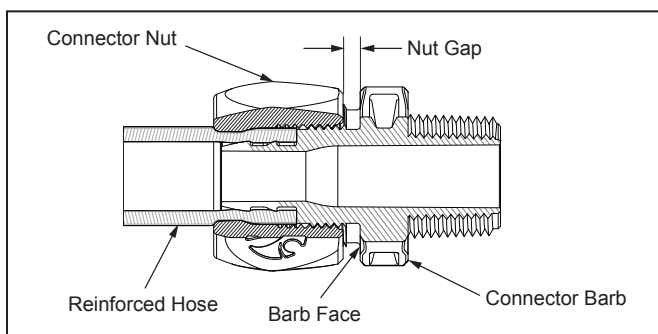

Figure 5. Tighten Connector Nut to Secure Hose
- Slide/Rotate the connector nut to the barb to engage threads. Tighten the connector until threads are no longer visible (gap about 1/8" or just less than the width of 2 dimes), or until it touches the barb face. See Figure 5.